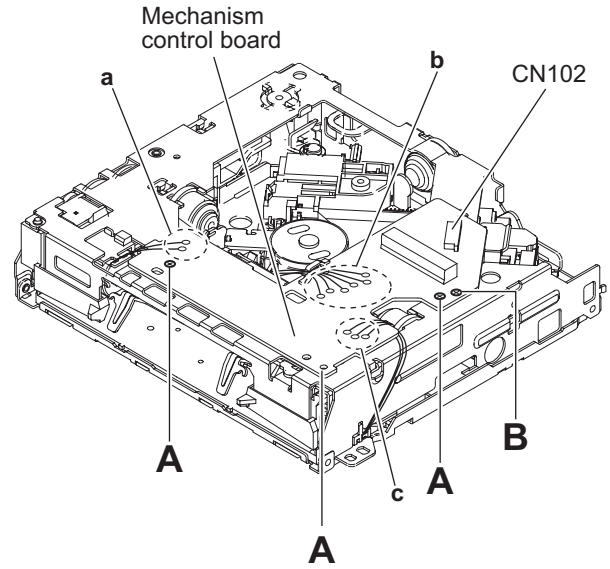

Fig.1
#### 3.2.1 Removing the MECHANISM CONTROL BOARD assembly (See Fig.1 and 2)
- (1) From the bottom side of CD MECHANISM assembly, remove the solders from the soldered sections (a, b and c) on the MECHANISM CONTROL BOARD assembly. (See Fig.1.)
- (2) Remove the three screws **A** and one screw **B** attaching the MECHANISM CONTROL BOARD assembly. (See Fig.1.)